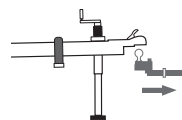

Figure 36
9. Pull your tow vehicle away slowly, lock your trailer coupler and you are done. (Figure 36)